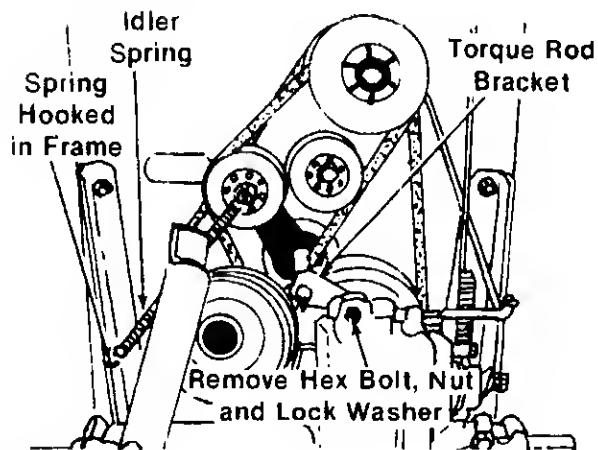

FIGURE 22.
5. Unhook the idler spring from the rider frame. See figure 22.
6. Remove the hex bolt, nut and lock washer at the torque rod bracket and transaxle. See figure 22.